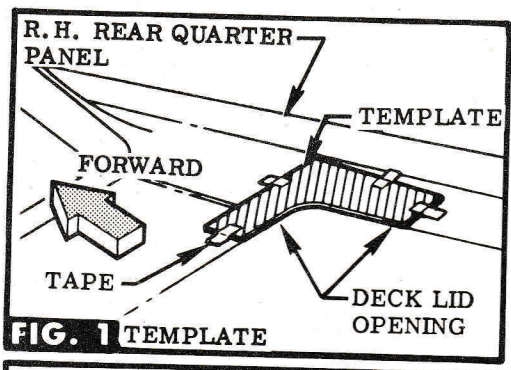

FIG. 1 TEMPLATE
STEP 1 FOLLOW DIRECTIONS ON TEMPLATE, ALIGN & TAPE TEMPLATE AT DECK LID OPENING. CENTERPUNCH, REMOVE TEMPLATE, DRILL HOLE & FILE NOTCH AS INSTRUCTED ON TEMPLATE. SEE FIG. 1.